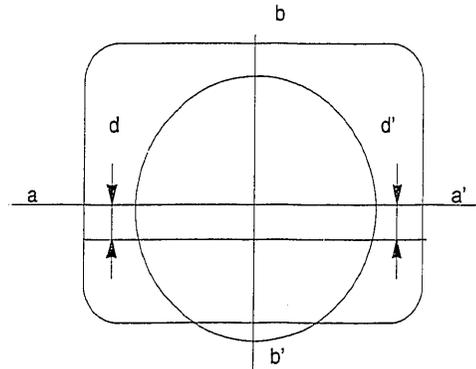

Fig. 2-1-3D
- (8) Move DY so that the rear edge position of DY comes to the center of the two marked lines and fasten DY as $d=d'$. (Figure 2-1-3D)